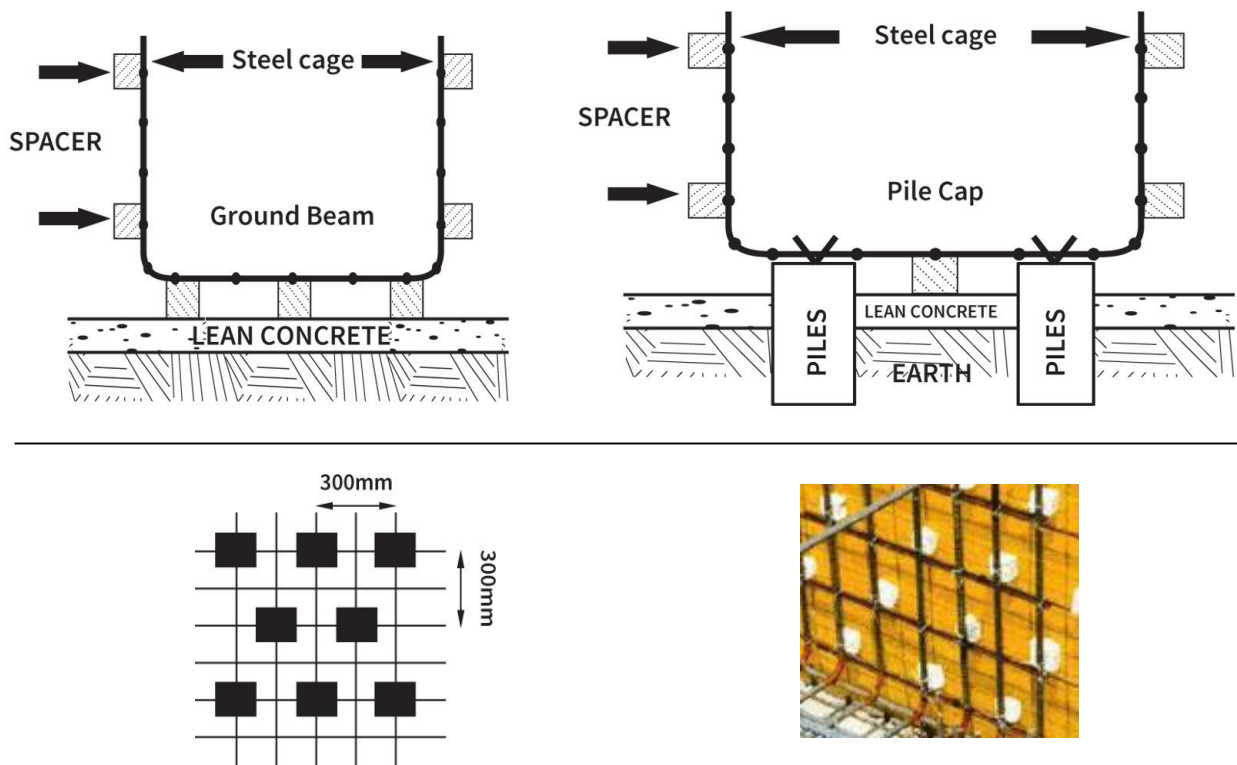

Figure 1.0
- iii. Tie 75mm x 75mm x 50mm concrete block spacer on the sides of reinforcement steel cage at spacing of 300mm x 300mm as depicted in Figure 1.0 below:-
- iv. Place reinforcement steel cage on top of lean concrete with allowance of sufficient concrete cover as depicted in Figure 1.0 below:-